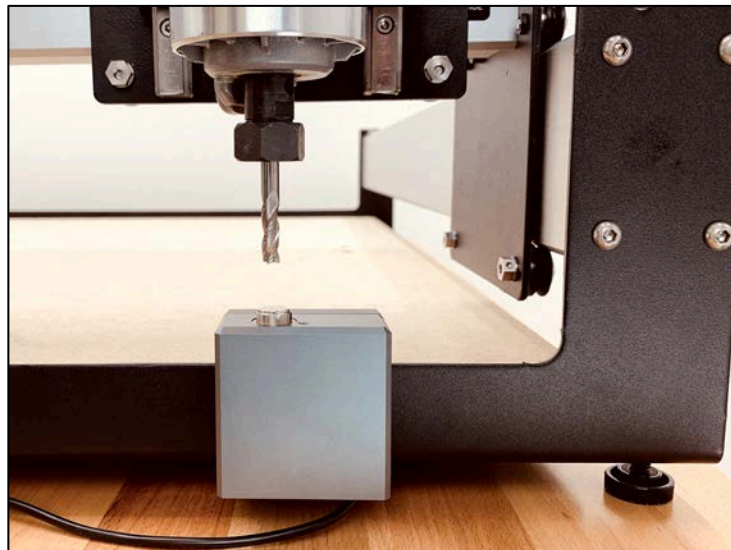

Figure 21
6. On the *Jog* screen, use the **Y+ / Y-** and **X+ / X-** buttons (or the arrows on your keyboard) to jog the gantry so the spindle is directly above the BitSetter. See *Fig. 21*.